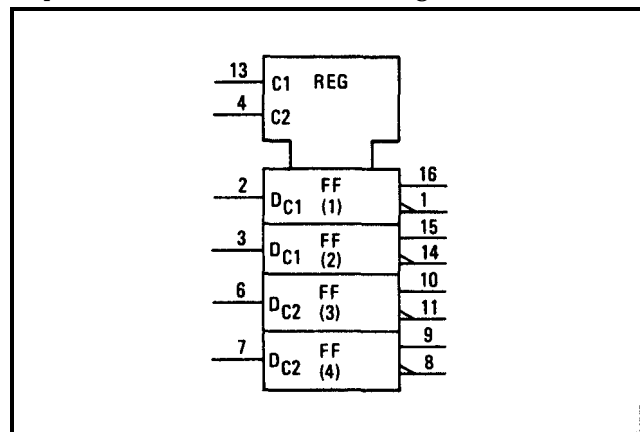

Figure 8-5. Four-Bit Bistable Latch
8-35. Four-Bit Bistable Latch. The four-bit bistable latch shown in Figure 8-5 consists of four independent D-type flip-flops. The flip-flops (FF1 and FF2) are controlled by the C1 clock input and the flip-flops (FF3 and FF4) are controlled by the C2 clock input. Information present at a data (D) input is transferred to the active-high and active-low outputs when the associated clock input is high; the outputs will follow the data as long as the clock remains high. When the clock goes low, the information that was present at the data input when the transition occurred is retained at the outputs until the clock returns high.